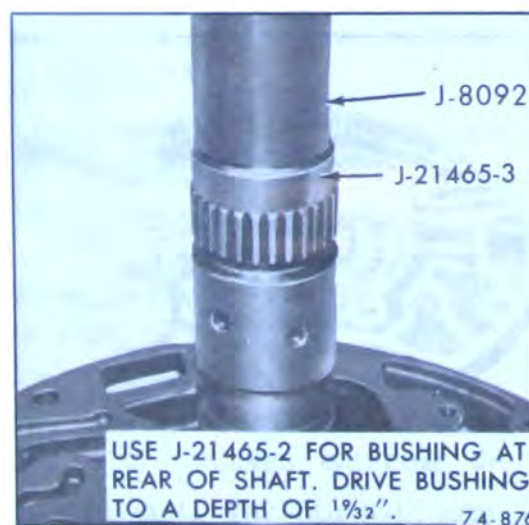

Figure 74-634
b. Using Installer J-21465-3 install bushing in front of shaft. See Figure 74-634.
c. See Figure 74-634 for installation of bushing in rear of shaft.